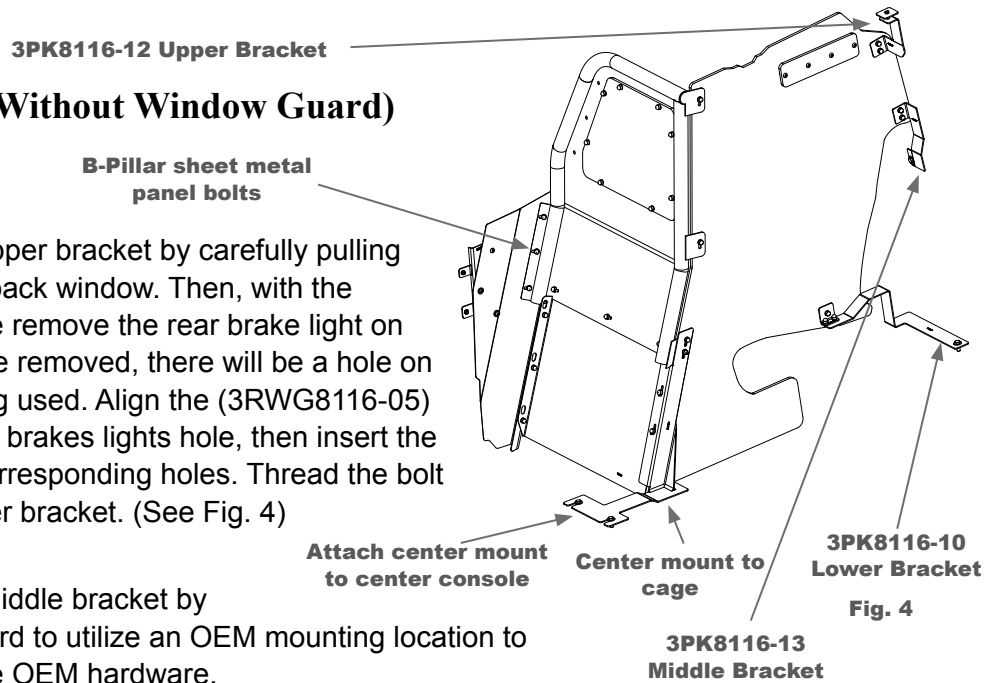

Fig. 4
- D. Attach the Pro-Cell mounting bracket to the center support with (3X36) screw and (3X16Z) whiz nuts. (See fig. 4 On the Next Page)
A. Install the (3PK8116-12) upper bracket by carefully pulling back the head liner by the back window. Then, with the assistance of someone else remove the rear brake light on the outside of the cab. Once removed, there will be a hole on the left-side that is not being used. Align the (3RWG8116-05) hanger plate's hole with the brakes lights hole, then insert the (3X122) bolt through the corresponding holes. Thread the bolt into the weldnut of the upper bracket. (See Fig. 4)
A. Install the (3RWG8116) rear window guard by carefully pulling back the head liner by the back window. Then, with the assistance of someone else remove the rear brake light on the outside of the cab. Once removed, there will be two holes one on the left and right-side that is not being used. Align the (3RWG8116-05) hanger plate's hole with the brakes lights holes, then insert the (3X122) bolt through the corresponding holes. Thread the bolt into the weldnut of the upper bracket. (See Fig. 4)